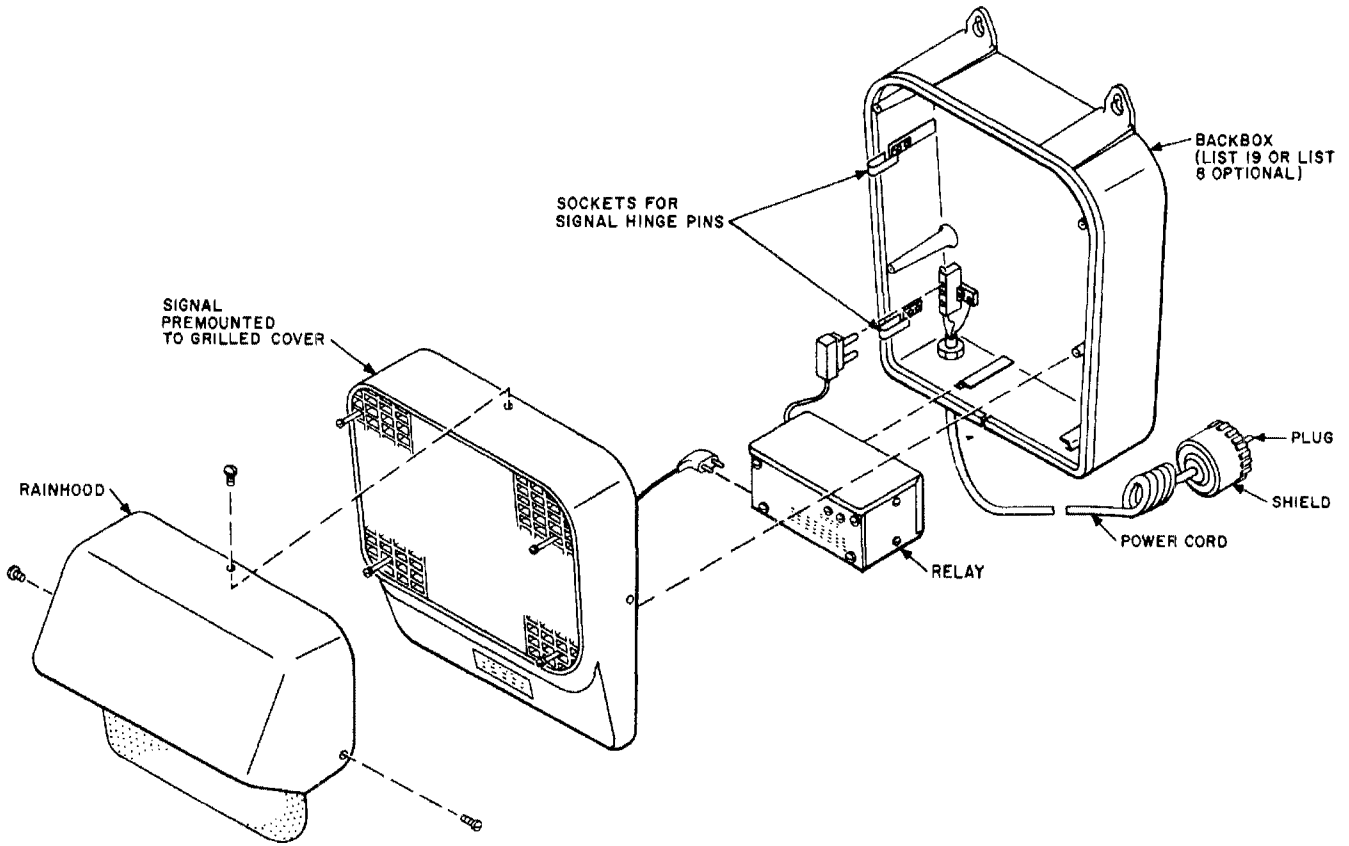

Fig. 1—Exploded View of Assembled Signal Using Relay
- Mount relay in the horizontal position on mounts provided in backbox (Fig. 1).